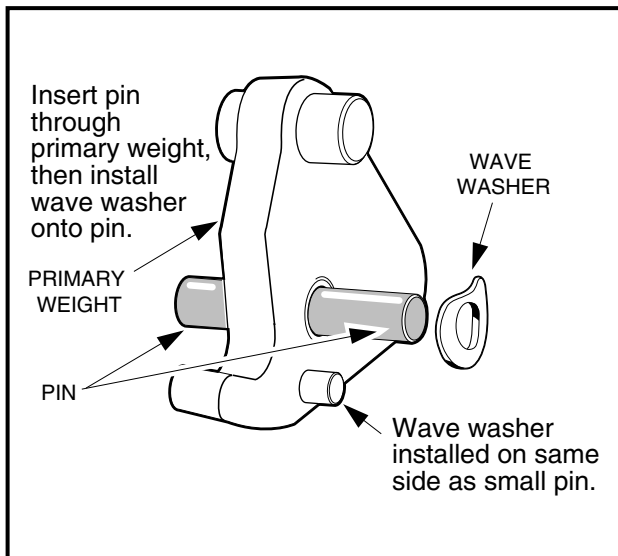

Figure 17-12 Install Pin and Washer
- 5.3. Remove the plastic washers, weights and wave washer from the pins. Before removing, note the orientations of the wave washer and of the primary and secondary weights to one another (Figure 17-12, Page 17-10 and Figure 17-13, Page 17-10). Retain all parts.
4. Inspect the thrust washer (11) for wear. If it is worn more than 0.030-inch (0.76-mm), turn it over or replace it with a new one.
5. Inspect the primary weights and the hub casting for wear. If the primary weights show signs they are touching the casting, the tips of the weights have worn beyond specification and they must be replaced (**Figure 17-12, Page 17-10**).
7. Install the primary weights on the mounting pins (Figure 17-12, Page 17-10).
8. Install a wave washer on each mounting pin. Make sure that the concave side of the washer faces the side of the primary weight with the small guide pin protruding from it (**Figure 17-12, Page 17-10**).